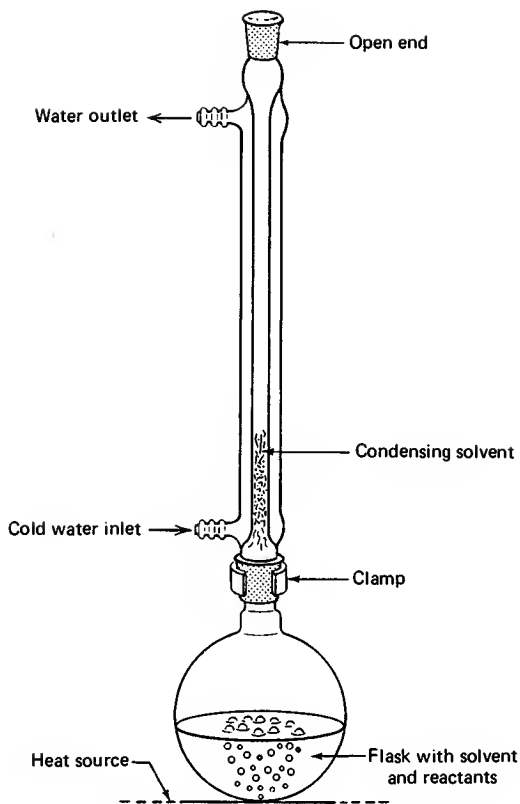

Fig. 83 A reflux setup.
4. Place a condenser, upright, on the flask, connect the condenser to the water faucet, and run water through the condenser (Fig. 83). Remember—in at the bottom and out at the top.